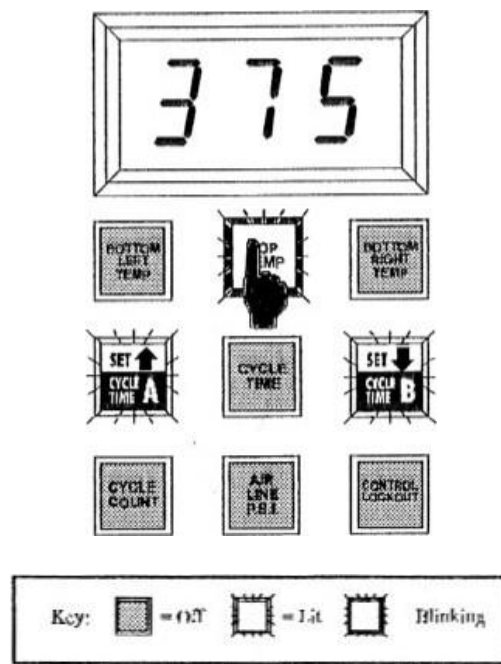

Figure 6-1
- While the control panel is in Monitoring Mode, press and hold the Top Temp button. After approximately two seconds, the panel's Up Arrow and Down Arrow buttons will light and the Top Temp button blinks, as show in Figure 6-1. This puts the control panel in the Set Mode. Release the Top Temp button. The control panel displays the current setting for the top platen temperature (not the actual temperature, as shown in Monitoring Mode); if the platen is set to off, the control panel displays three dashes.